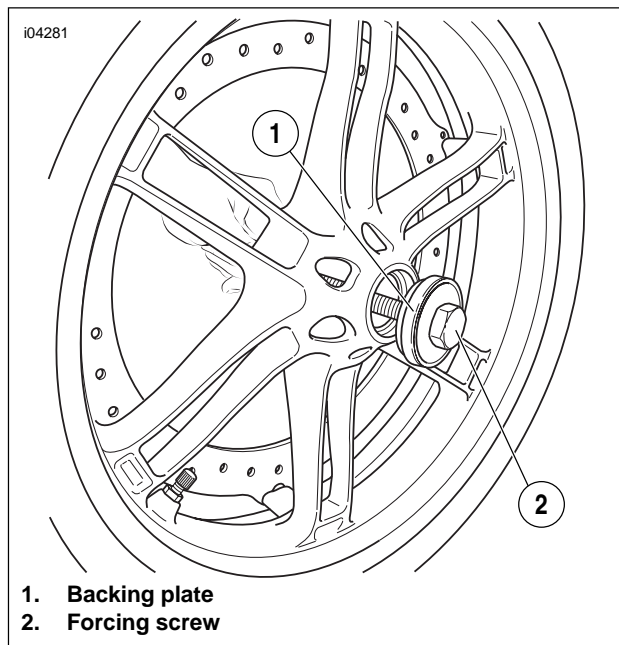

Figure 2-13. Install the Backing Plate (B-43993-12) and Forcing Screw
1. See Figure 2-13. Install the Backing Plate (Part No. B-43993-11) onto the long forcing screw from the Wheel Bearing Installer/Remover (Part No. HD-44060), with the smaller diameter toward the wheel hub. Insert the forcing screw and backing plate into the wheel hub.